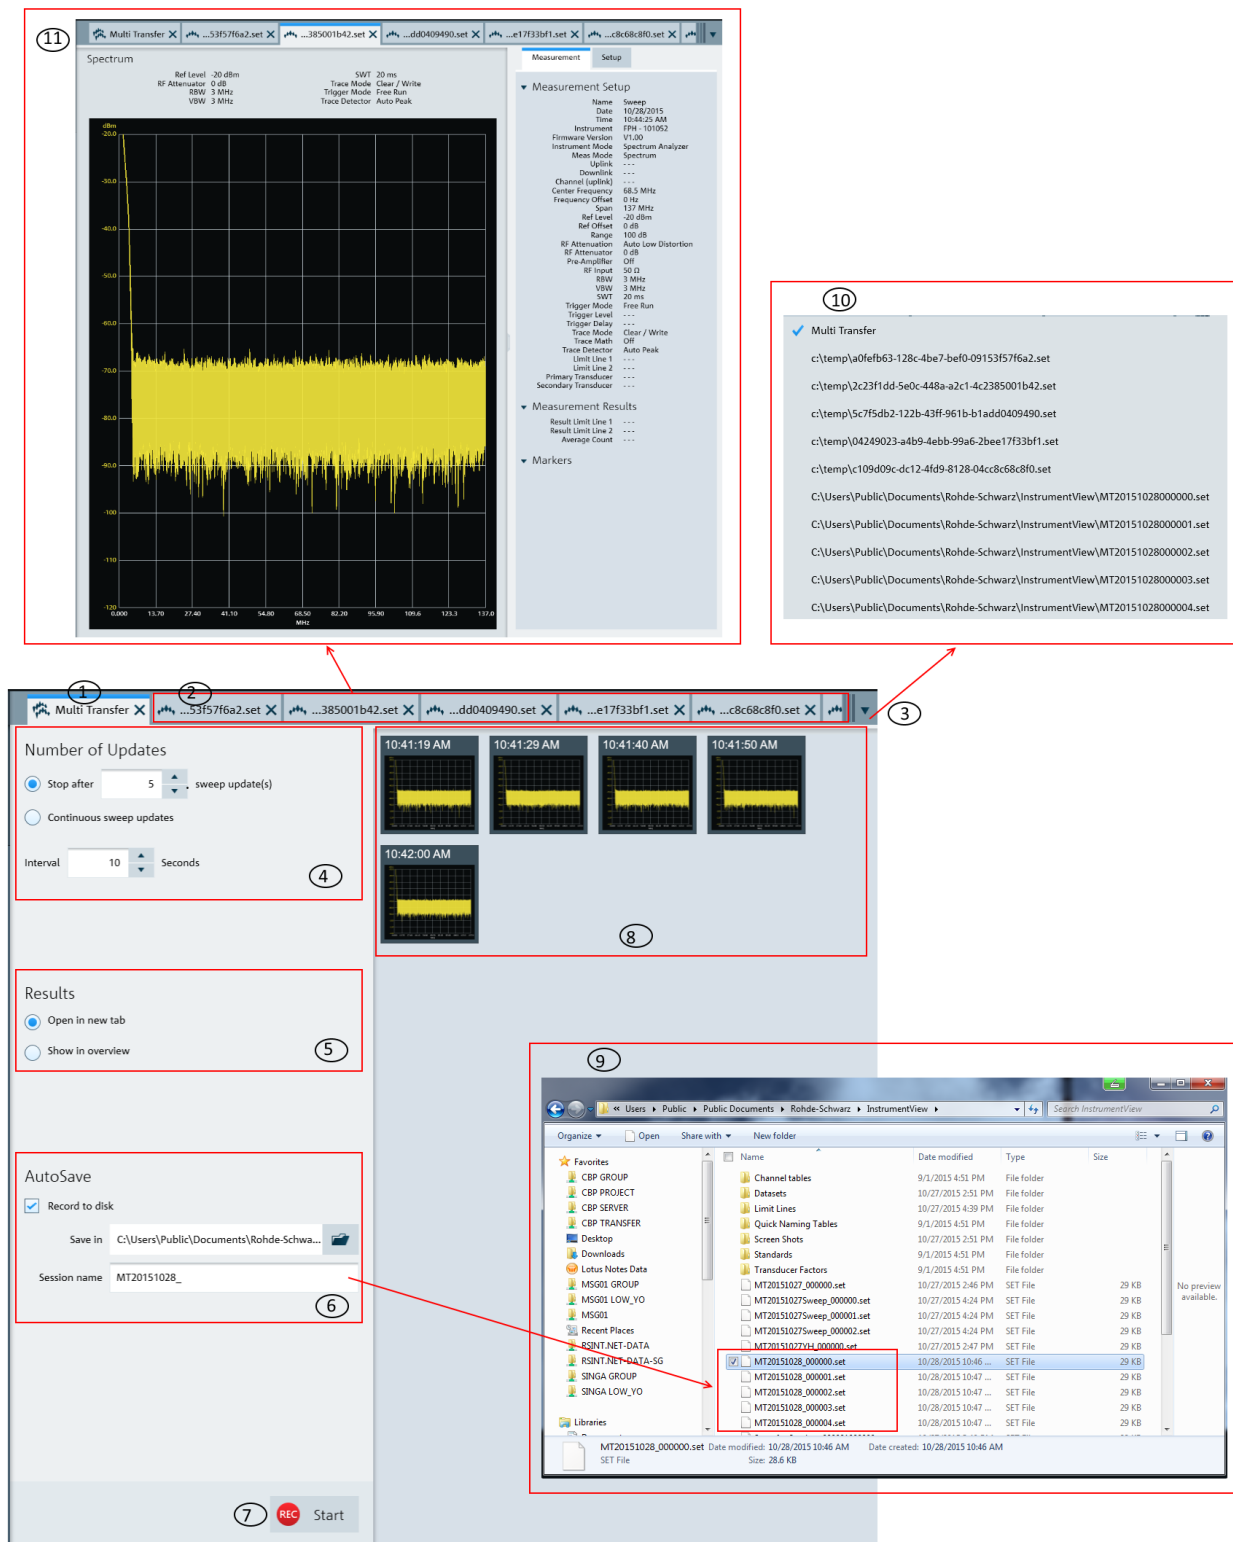

Figure 4-12: Multi-transfer dialog
|  | <p>View the details of the trace measurement file.</p> <p>For viewing, see <a href="#">Chapter 4.3, "Save Instrument"</a>, on page 21 for a list of file format supported.</p> <p>When a file is selected to be viewed, a tab is displayed in the header bar of the screen layout. See index 11 of <a href="#">Figure 4-12</a>.</p> |
The "Multi Transfer" menu allows you to capture and save trace measurements from the instrument. See Figure 4-12.
- 2 = Measurement results tab (see index 11 in Figure 4-12)
- Display the trace measurement in the overview area. See index 8 in Figure 4-12.
- Display the individual trace measurement result in the "Tab header bar". See index 2 in Figure 4-12.
See index 11 in Figure 4-12.
See index 9 in Figure 4-12 to view the trace measurements captured in the file directory.
Depending on the setting in the "Results" section (see index 5 in Figure 4-12), the trace measurement updates can be displayed in the overview area (see index 8 in Figure 4-12) or individually displayed as a new tab in the tab header bar (see index 2 in Figure 4-12).